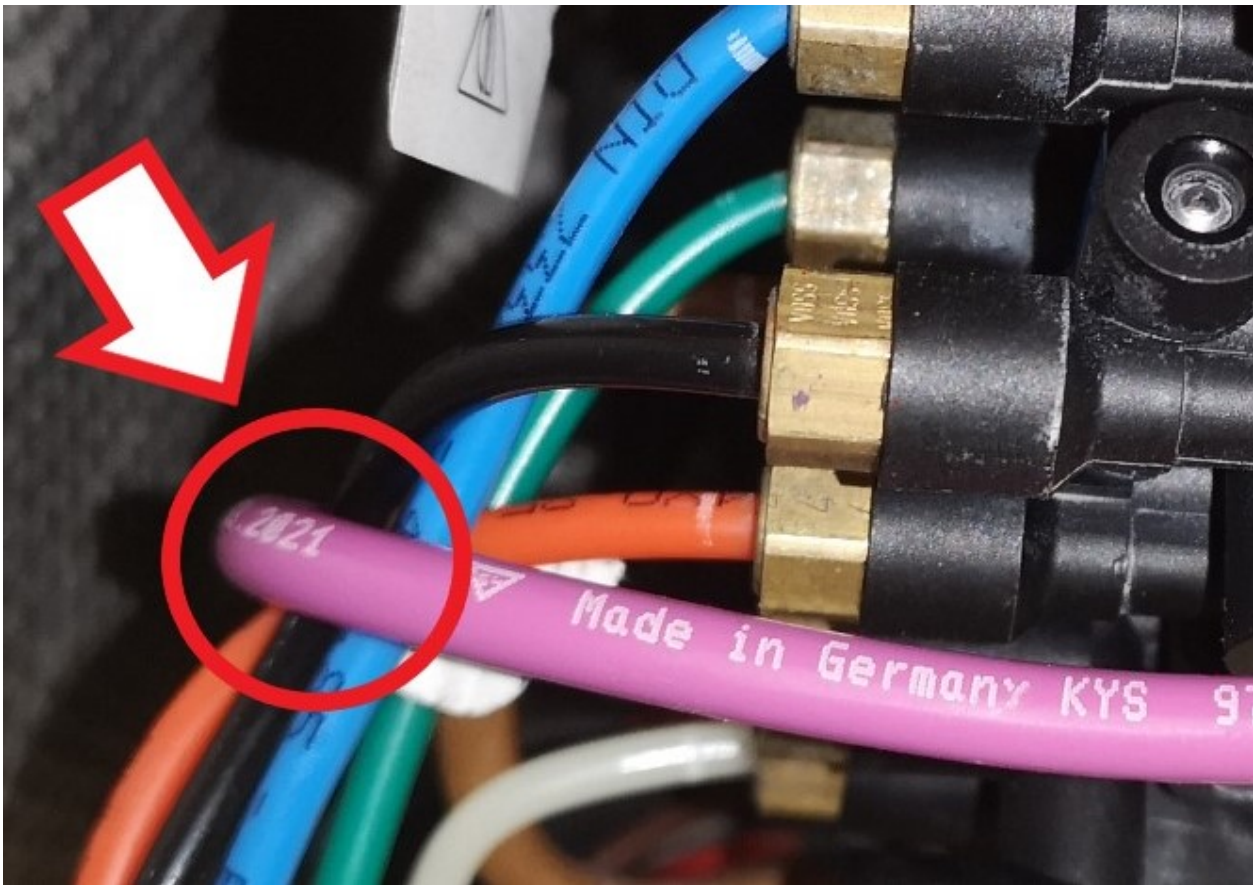

Figure 22
- Referring to Figure 22 - The pink air line routing IS **NOT** CORRECT